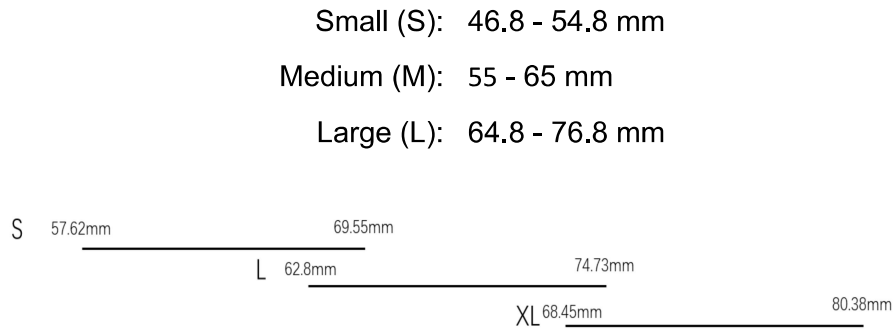

Figure 4
- (1) The MegaRing C30 is offered in three sizes, based on the circumference of the your index finger (the distance around your index finger). The circumference of the index finger corresponds to the size of the three (3) available ring sizes as shown **Figure 4**: